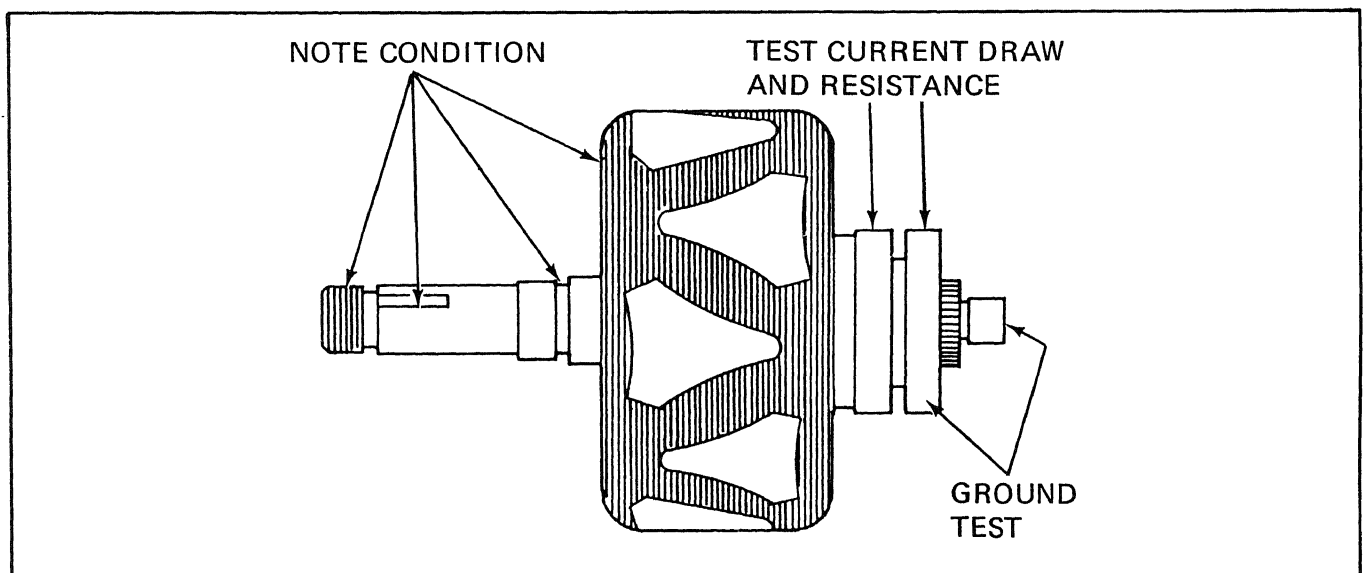

Figure 5-28.25. Alternator Rotor Testing
- (4) Rotor. Check rotor assembly, as shown in figure 5-28.25, for the following electrical properties.